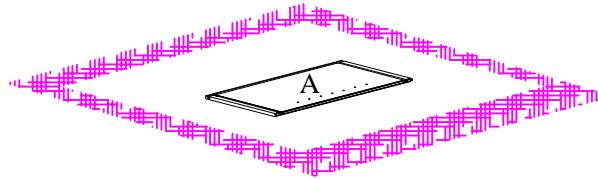

Figure 1
1. Place the side panel (A) face down on a flat soft working surface to ensure that the face is not scratched or damaged. (Figure 1).